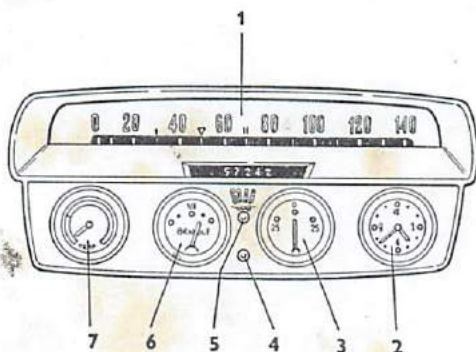

Fig. 12. Instrument Unit
6. Instrument unit, see fig. 12.